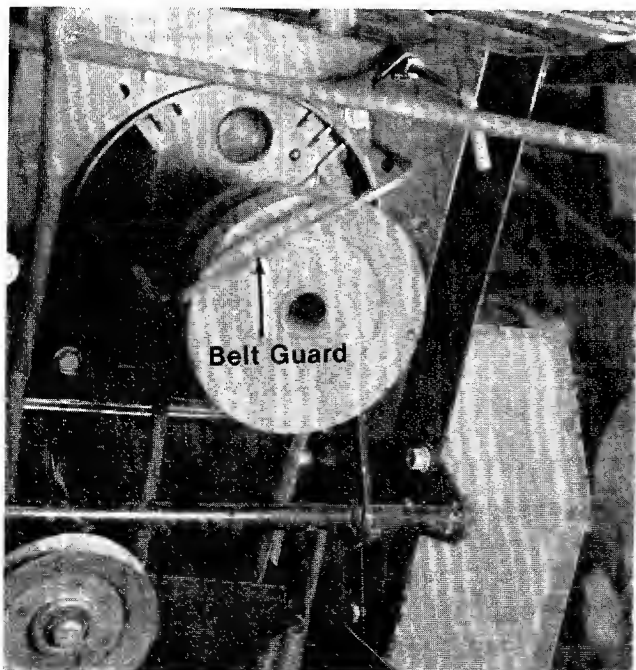

FIGURE 18.
4. Swing the belt guard forward towards the front of the tractor. See figure 18.